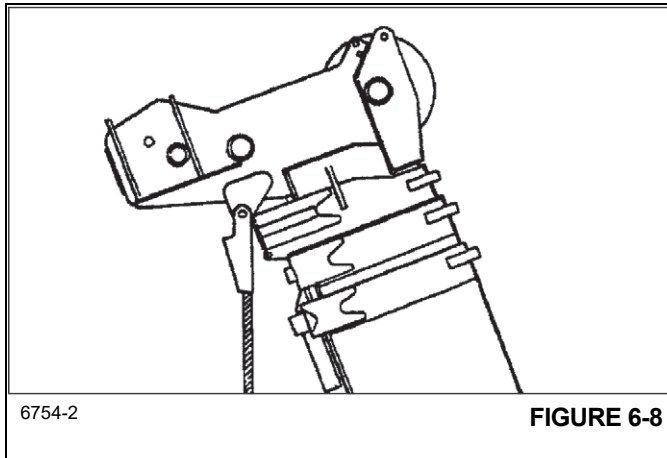

FIGURE 6-8
4. Position the anchor wedge in the drum slot; pull firmly on the free end (2), (Figure 6-8) of the cable to secure the wedge.
When anchoring the socket to the boom, make sure the flat face of the socket is toward the boom sections, as shown in (Figure 6-8)